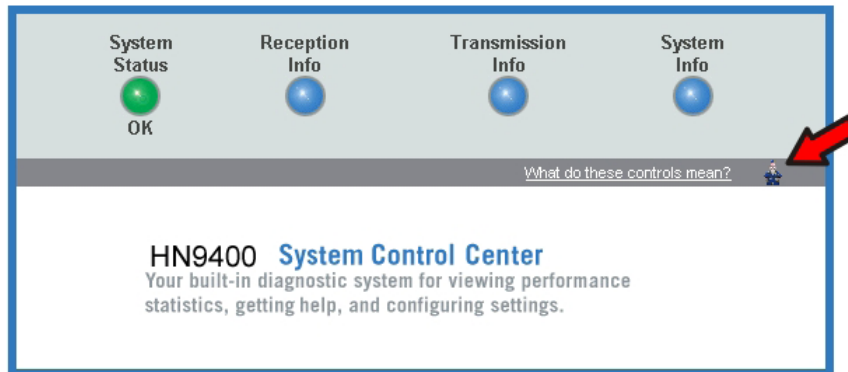

Figure 78: Icon for accessing Advanced Pages (arrow)
- On the System Control Center home page, click the small icon indicated by the arrow in *Figure 78: Icon for accessing Advanced Pages (arrow)* on page 106. The icon is a link to the Advanced Pages.